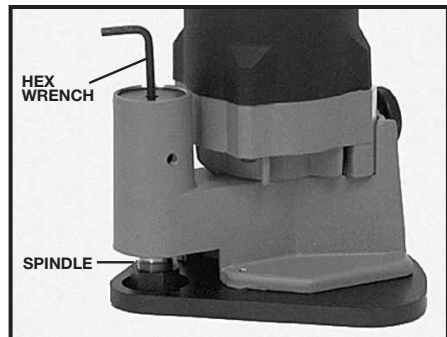

Fig. 11
2. Position hex wrench (furnished) to depth adjusting screw (See Fig.11).